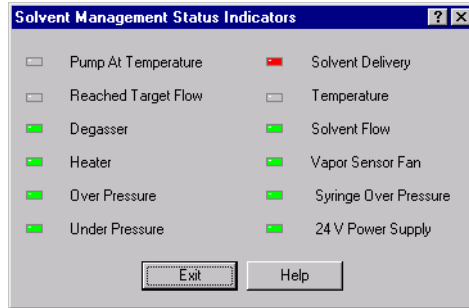

Figure 5-2 Solvent Management Status Indicators Dialog Box
- Solvent Management Status Indicators (Figure 5-2).